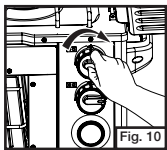

Fig. 10
- Push in and turn right to close the control knob. Make sure all 3 control knobs are in closed position. (Fig. 10, 11, 12)